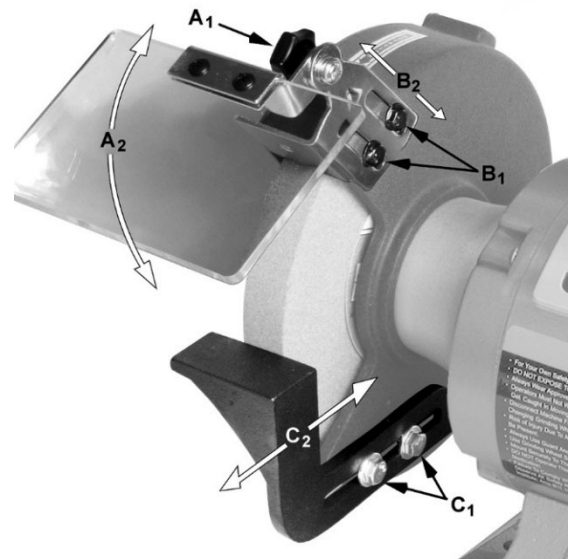

Figure 8-1: eye shield adjustment
1. Loosen lock knob (A₁, Figure 8-1).
Refer to Figure 8-1.